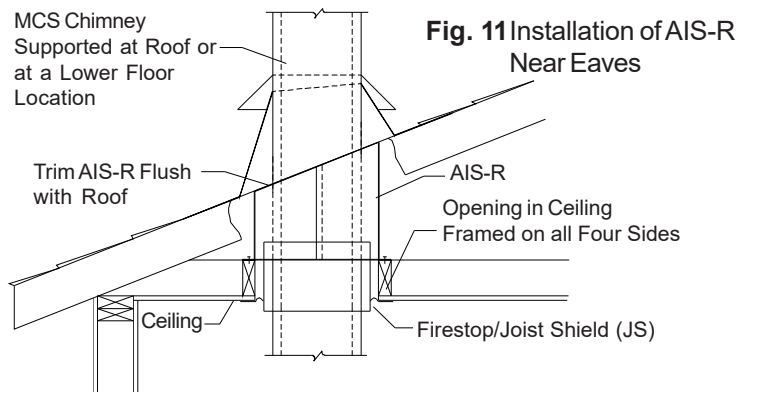
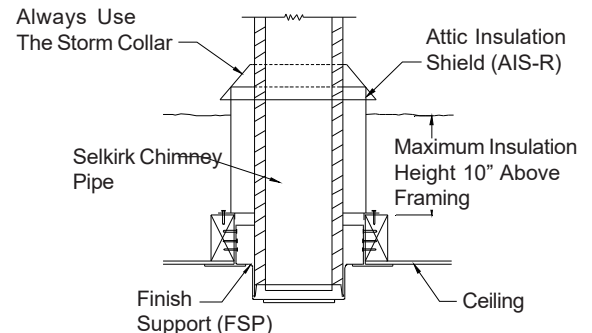

Fig. 11
Fig. 12
The 2-part Attic Insulation Shield (AIS-R) consists of two half cylinders, each with its own base plate, together with a Storm Collar (SC) closure at the upper end (see Fig. 10). It may be used for new as well as retrofit installations. For retrofit installation the Attic Insulation Shield (AIS-R) may be installed around an existing chimney without removing it. It is also adaptable to limited headroom installations near eaves of roofs where it can be slid into place, or the two halves can be installed down through a roof opening and placed around the chimney (see Fig. 11).
The split cylinder low profile design of the AIS-R permits it to be used close to eaves and side walls (see Fig. 11). If there is sufficient clearance the storm collar should be used. If the cylindrical shield projects through the roof is should be trimmed flush with the roof surface so it does not interfere with the flashing.
NOTE: The 2-Part Attic Insulation Shield (AIS-R) does not function as a Fire Stop or Joist Shield and must be used with other parts that are designated as such. Parts that serve as Fire Stops include the Ceiling Support (CSP/FSP), Fire Stop/Trim Plate-TPS (with supplemental JS), and the Fire Stop/Joist Shield (JS). An installation above a Finish Support Package is shown in Fig.12. If the chimney system is supported at a lower level, a Fire Stop/Joist Shield must be used (see Fig.11).